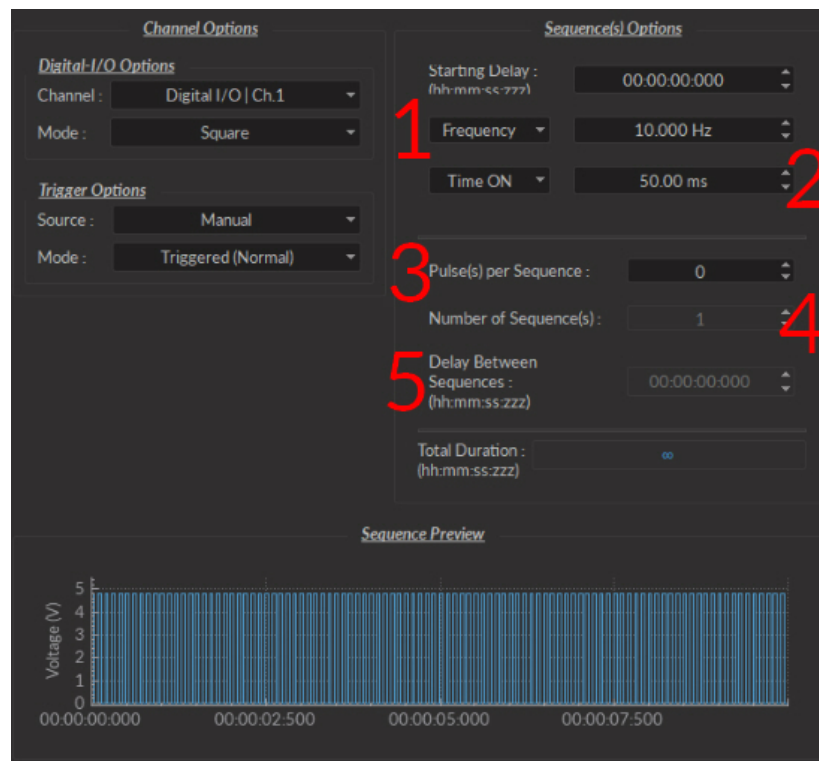

Figure 3.4: Channel(s) configuration window, Digital I/O square
- The **Square** channel mode (Fig. 3.4) allows the creation of a square TTL pulse sequence. This includes all sequence options as the **CW** mode, with the following additions.